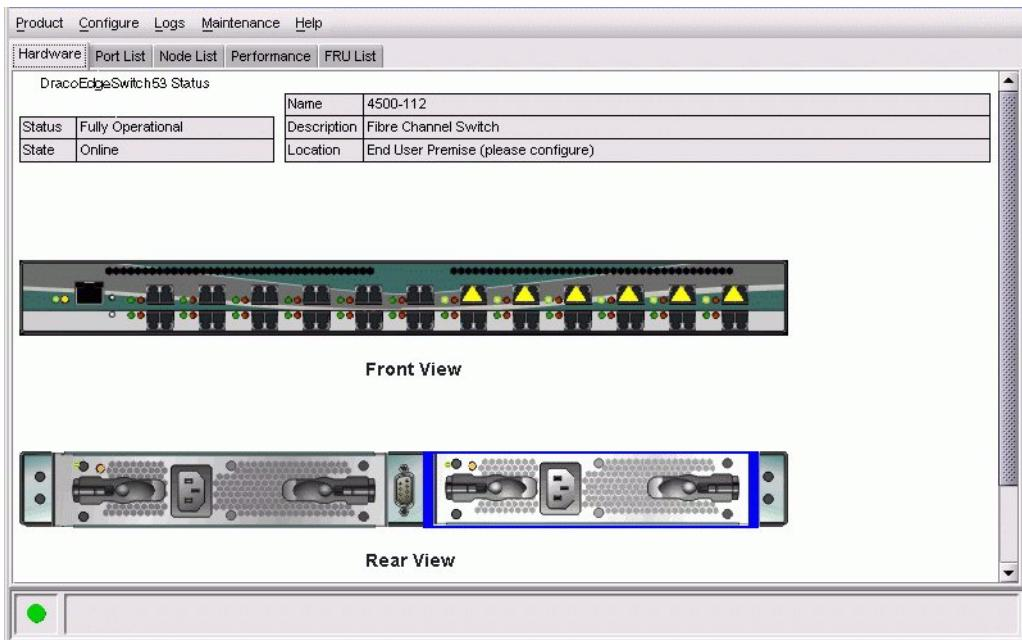

Figure 16 Switch Hardware View page
3. Select **Element Manager** from the pop-up menu. When the Element Manager application opens, the last view (tab) accessed by a user opens by default. The example in Figure 16 shows the Hardware View.